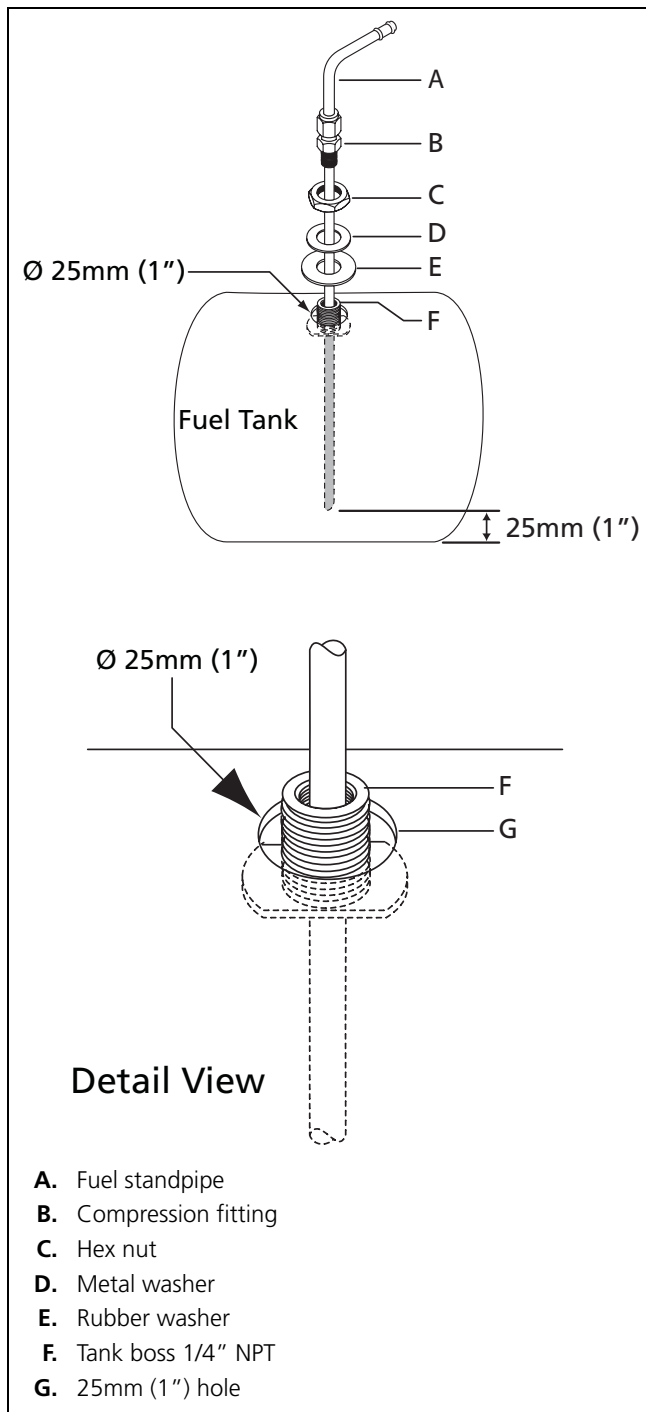
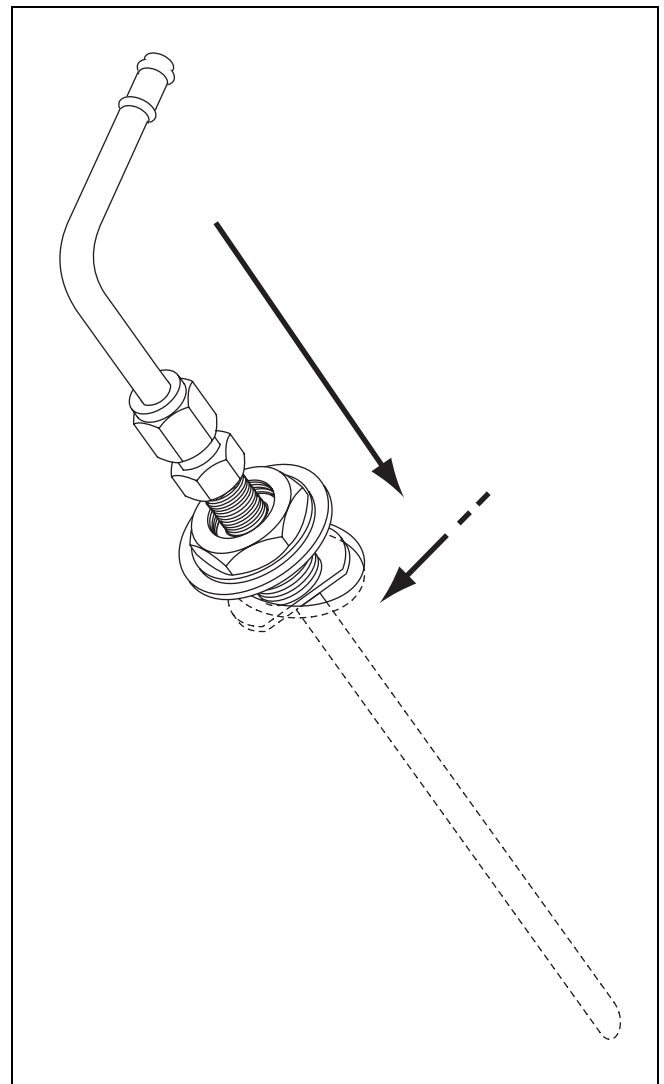

Figure 18: Webasto fuel standpipe
Figure 19: Standpipe installation - illustration 1
1. bore a 25mm (1") hole through top of fuel tank (item G, Figure 18).
4. loosely assemble items C, D, E, and F (Figure 18).
6. slide standpipe into hole at angle. Slip one shoulder of item F, Figure 18 inside the hole as shown in Figure 19.